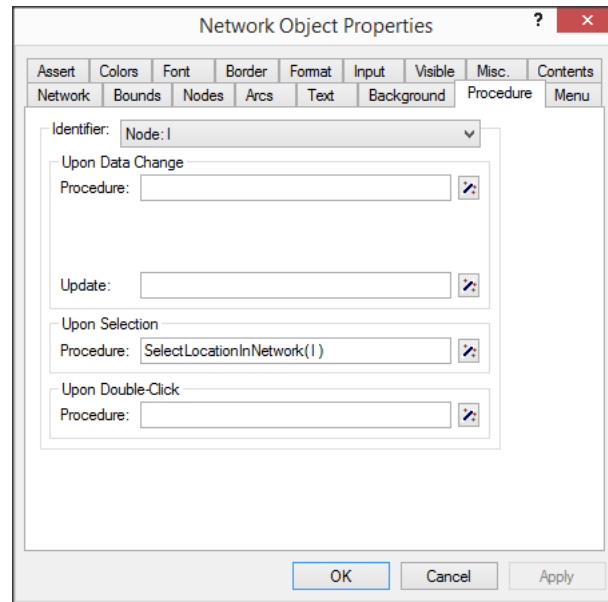

Figure 11.32: The **Procedure** tab of **Network Object Properties** dialog box
- ▶ select the index 1 from the 'Index' drop-down list (see Figure 11.32),